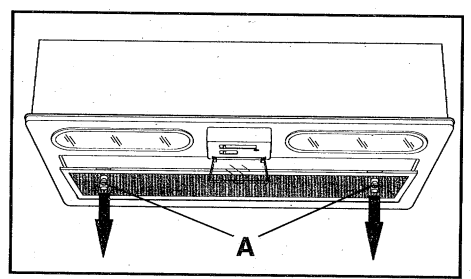

Fig. 2
- b)** Remove the metal grease filter by pulling downwards the two knobs **A** (Fig. 2).
- To remove the grease filter pull downwards the two knobs **A** (Fig. 2).
- b) Rimuovere il filtro metallico grassi tirando verso il basso le due manopole **A** (Fig. 2).